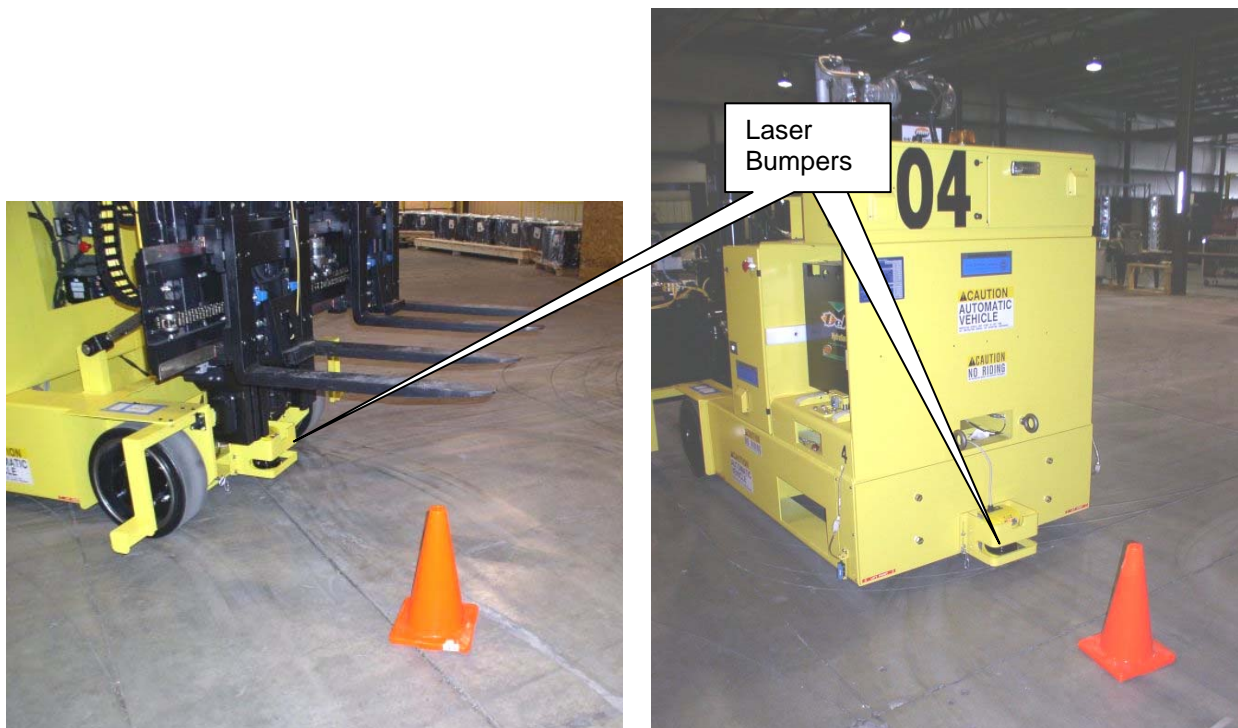

Figure 1: Illustrating proper traffic cone placement.
- Cones should also be placed in the oncoming guide path, both in front of and behind the vehicle being inserted. (See Figure 1)